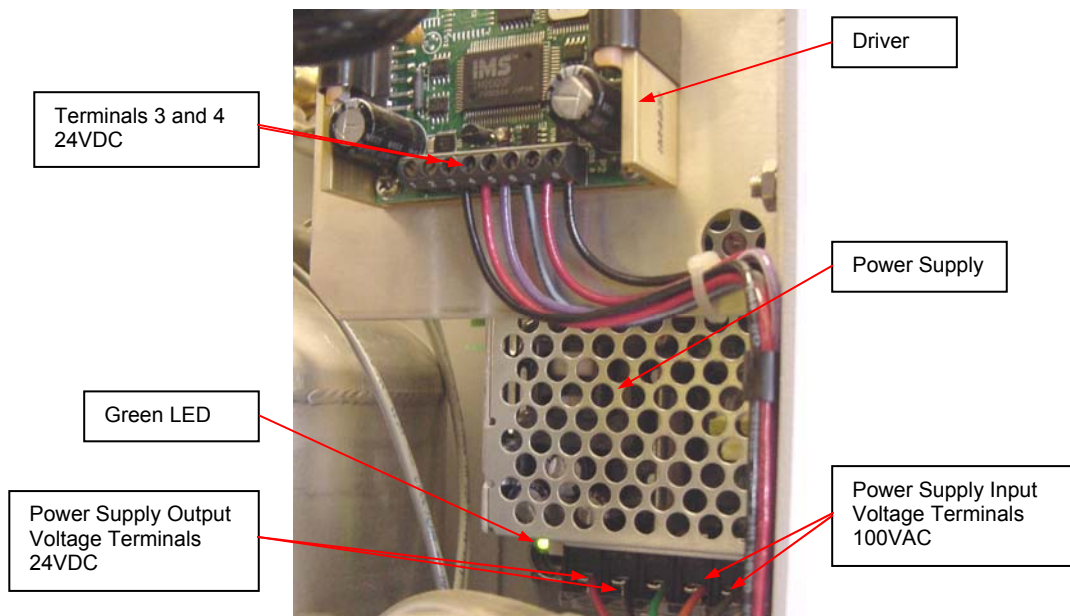

Figure 17: Cold Head Motor Power Supply and Driver
- 2) Locate the power supply and the motor driver attached to the electrical panel. See Figure 17.